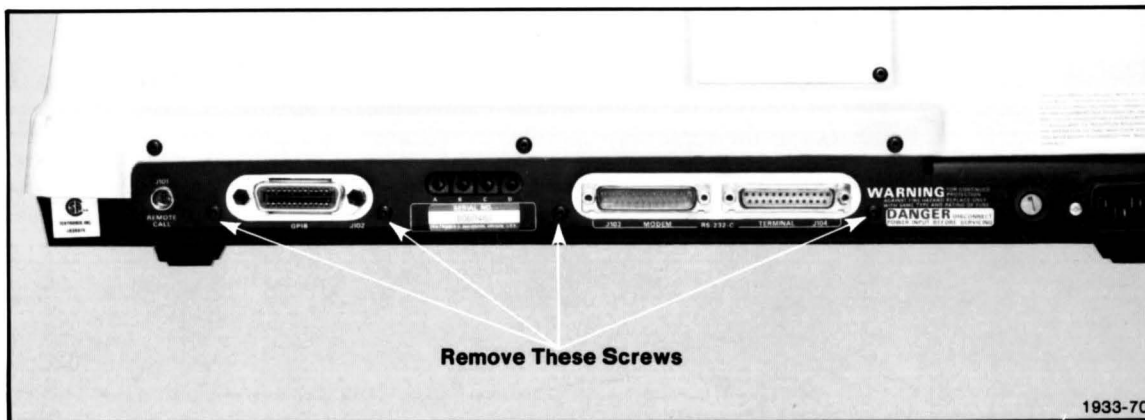

Figure 3-9. Rear Panel Circuit Board Screw Locations.
4. **Remove** the four hex-socket cap screws (5/64-inch Allen wrench required) surrounding J102, J103, and J104 on the plotter's rear panel (see Figure 3-9).